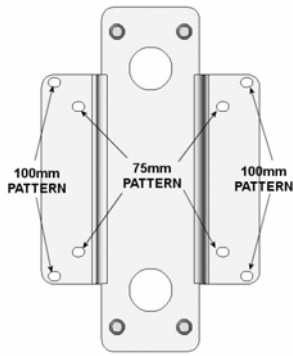
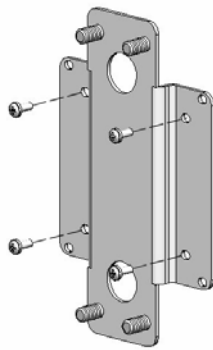
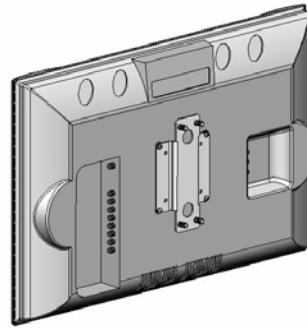
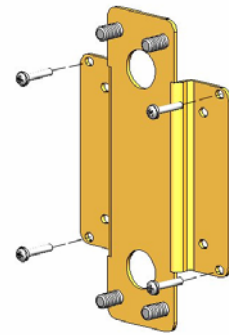

Figure 2
Figure 3
Figure 4
Figure 5
1. For displays with a flat mounting surface, place adapter bracket over four mounting holes and secure using four M4 X 10 PHCS screws (75mm see Figure 2, Figure 3 and Figure 4) (100 mm see Figure 2 and Figure 5).